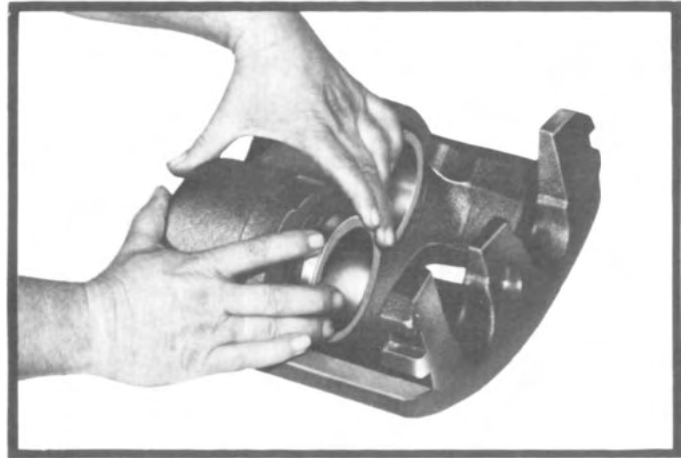

Fig. 33 — Press piston straight into caliper bore.
(6) Press piston straight into caliper piston bore until it bottoms. The boot should slide up the piston as the piston is pushed into the caliper bore and comes to rest in the boot groove in the piston (Fig 33)